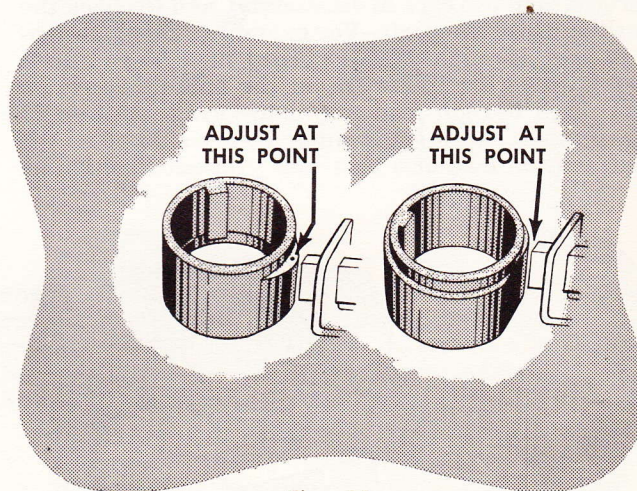

Fig. 11
2. If the point setting is off, it can also indicate that the point was not in the proper place on the cam lobe when they were set. Fig. 11 illustrates the two most common types of cams, which have been used on engines other than Red